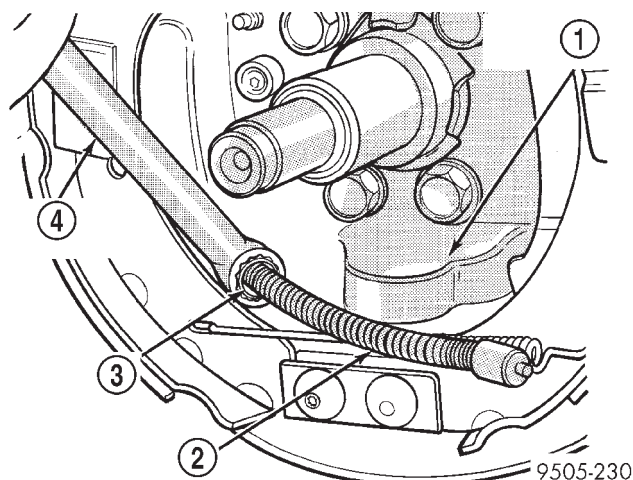

Fig. 121 Removing Park Brake Cable From Support Plate
(7) Position a 1/2 wrench over the retainer fingers on the end of the parking brake cable (Fig. 121). Compress cable housing retaining fingers and start cable housing out of support plate (Fig. 121). Remove wrench when retainer is free from the park brake cable mounting hole in the rear brake support plate. Alternate method is to use a aircraft type hose clamp over cable housing end fitting compressing the three fingers.
(8) Remove the 4 bolts attaching the brake support plate to the knuckle. Separate brake support plate from rear suspension knuckle.